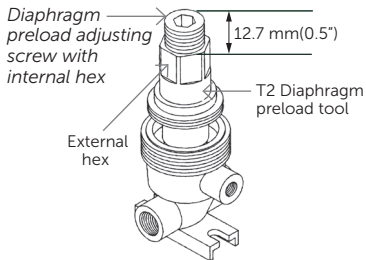

Figure 2.
8. Use the 3/8" allen wrench (S6) to turn the adjusting screw on the diaphragm preload tool (T2) out 12.7 mm (1/2"). (See Figure 2.) Now, place the diaphragm preload tool (T2) onto the retainer nut (P12). (See Figure 2.)